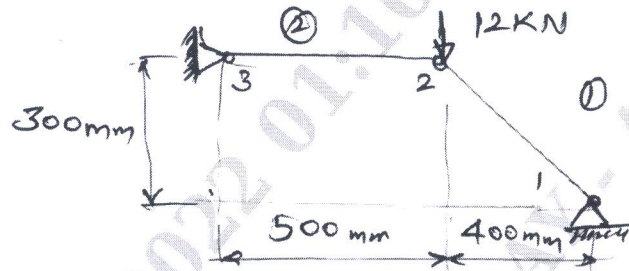

Fig.Q6(a)
- 6 a. For the two bar truss shown in Fig.Q6(a). Determine the nodal displacement. Take $E = 2 \times 10^5 \text{MPa}$, $A = 200 \text{mm}^2$.